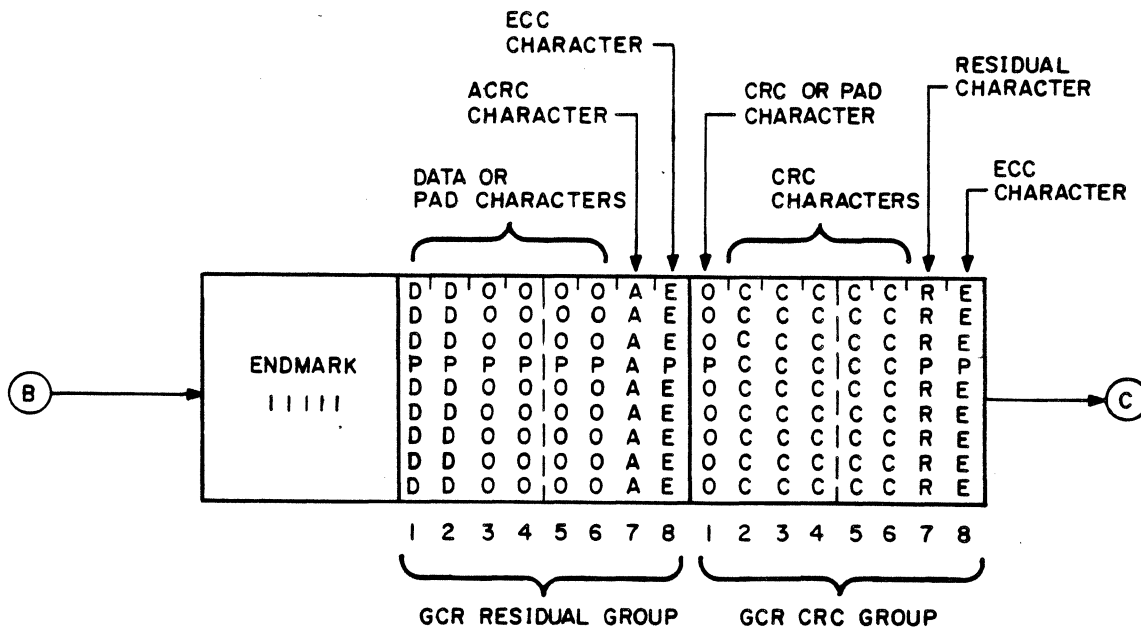

Figure 4-30C. Detail of GCR Tape Format
- o END MARK (see figure 4-30C)
- o Residual Group (see figure 4-30C)
- o Cyclic Redundancy Check (CRC) Group (see figure 4-30C)
- o MARK 2 (see figure 4-30C)